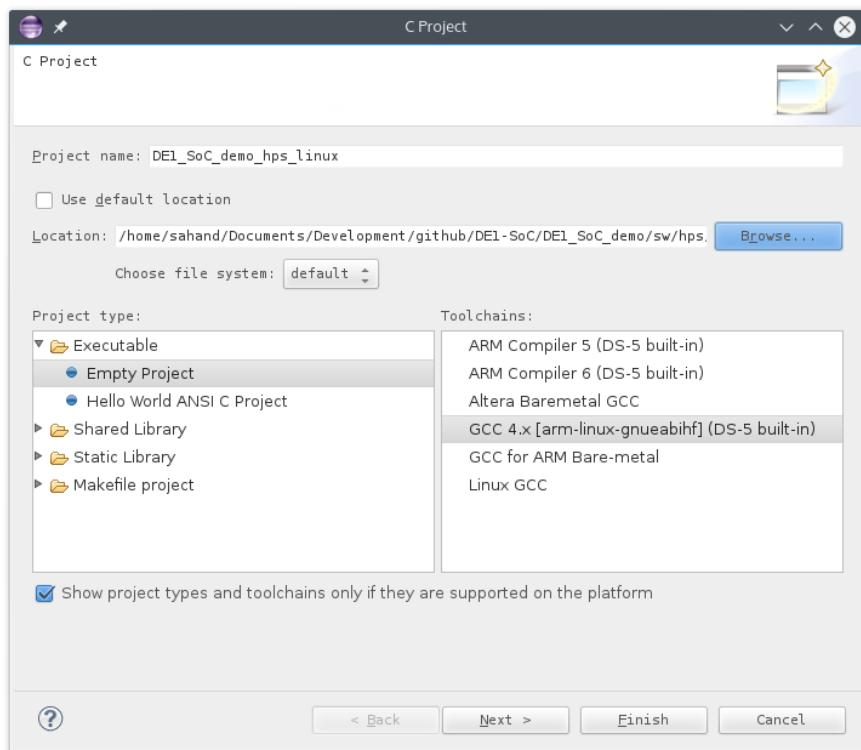

Figure 13-6. New C Project Dialog
- f. You should have something similar to Figure 13-6. Then, press the “Finish” button to create the project.